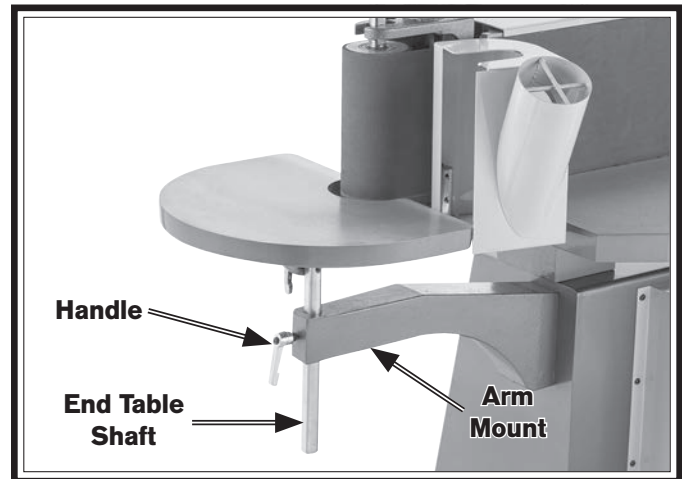

Figure 23. End table installed.
13. Insert end table shaft into machine arm mount and secure with M10-1.5 x 30 handle (see **Figure 23**).